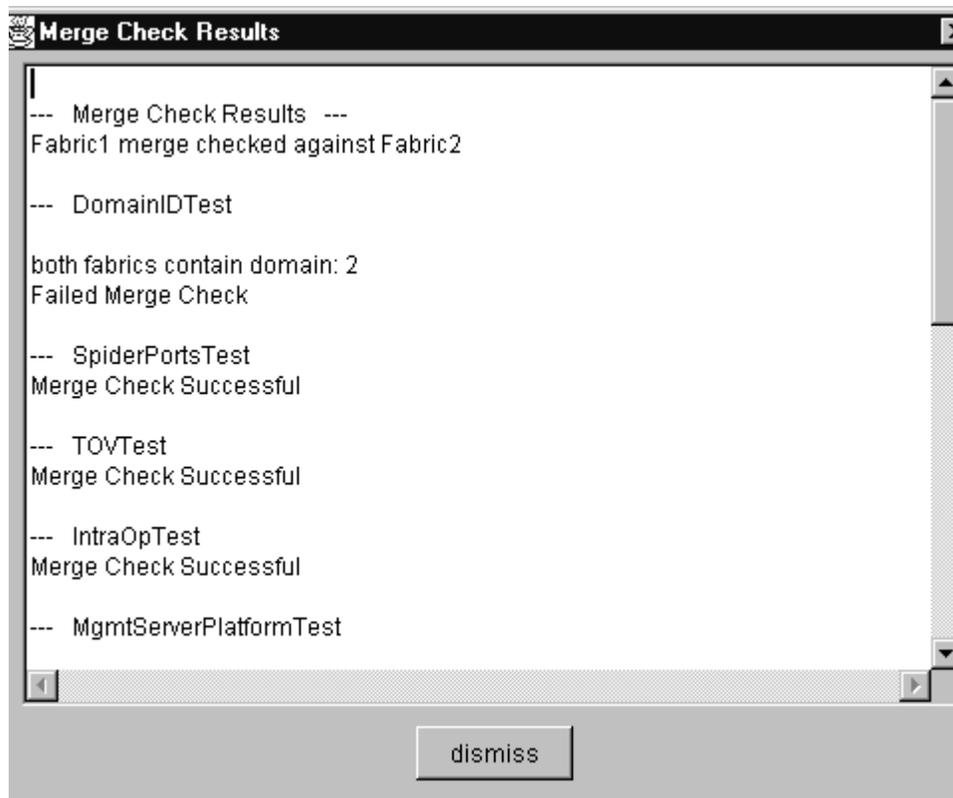

Figure 32: Merge Check Results dialog box
3. Click **Check**. Testing is initiated to compare configurations that are currently active. Results are displayed in the **Merge Check Results** dialog box, as shown in Figure 32.